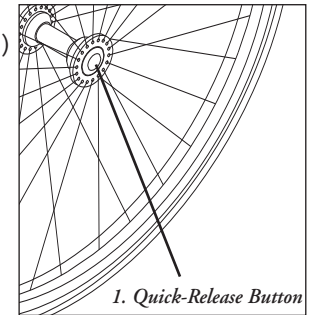

Figure 1
- a. The quick-release button pops out fully. (Fig. 1)
1. To Install Wheel (Figs. 1 & 2):
- a. Depress quick-release button (1) fully. This will release tension on ball bearings at other end.
- c. Keep pressure on button (1) as you slide axle (2) into axle sleeve (3).
- a. Depress quick-release button (1) fully.
- b. Remove wheel by sliding axle (2) out of axle sleeve (3).